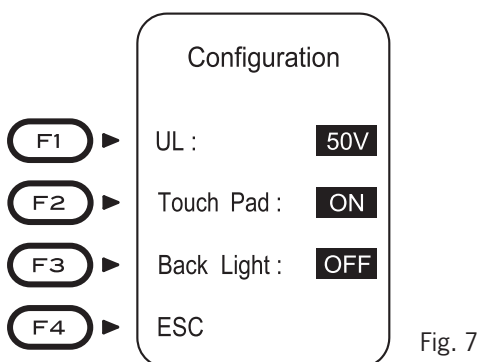

Fig. 7
2. Then, Configuration Screen (Fig.7) is displayed.